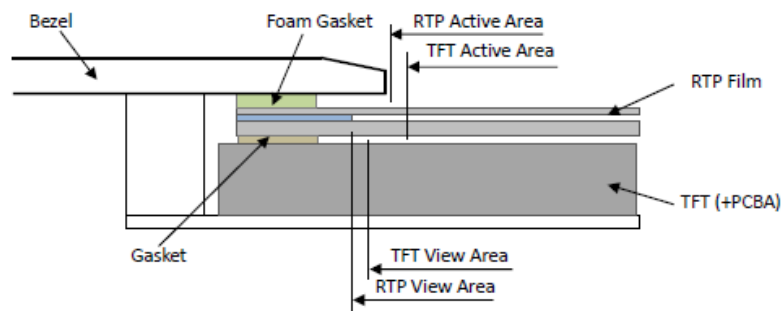

Figure 5
- In general design, RTP V.A. should be bigger than the TFT V.A. and RTP A.A. should be bigger than the TFT A.A. (Figure 5)
RTP的可视区 V. A. 应不小于TFT 的可视区 V. A. 及RTP的动作区 A. A. 应不小于TFT 的动作区 A. A. (附图5)